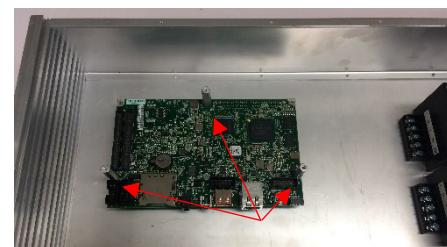

Figure 91 2nd layer of standoffs installed
- Screw the longer three standoffs into the three unused mounting holes on the first sbRIO. See Figure 91.